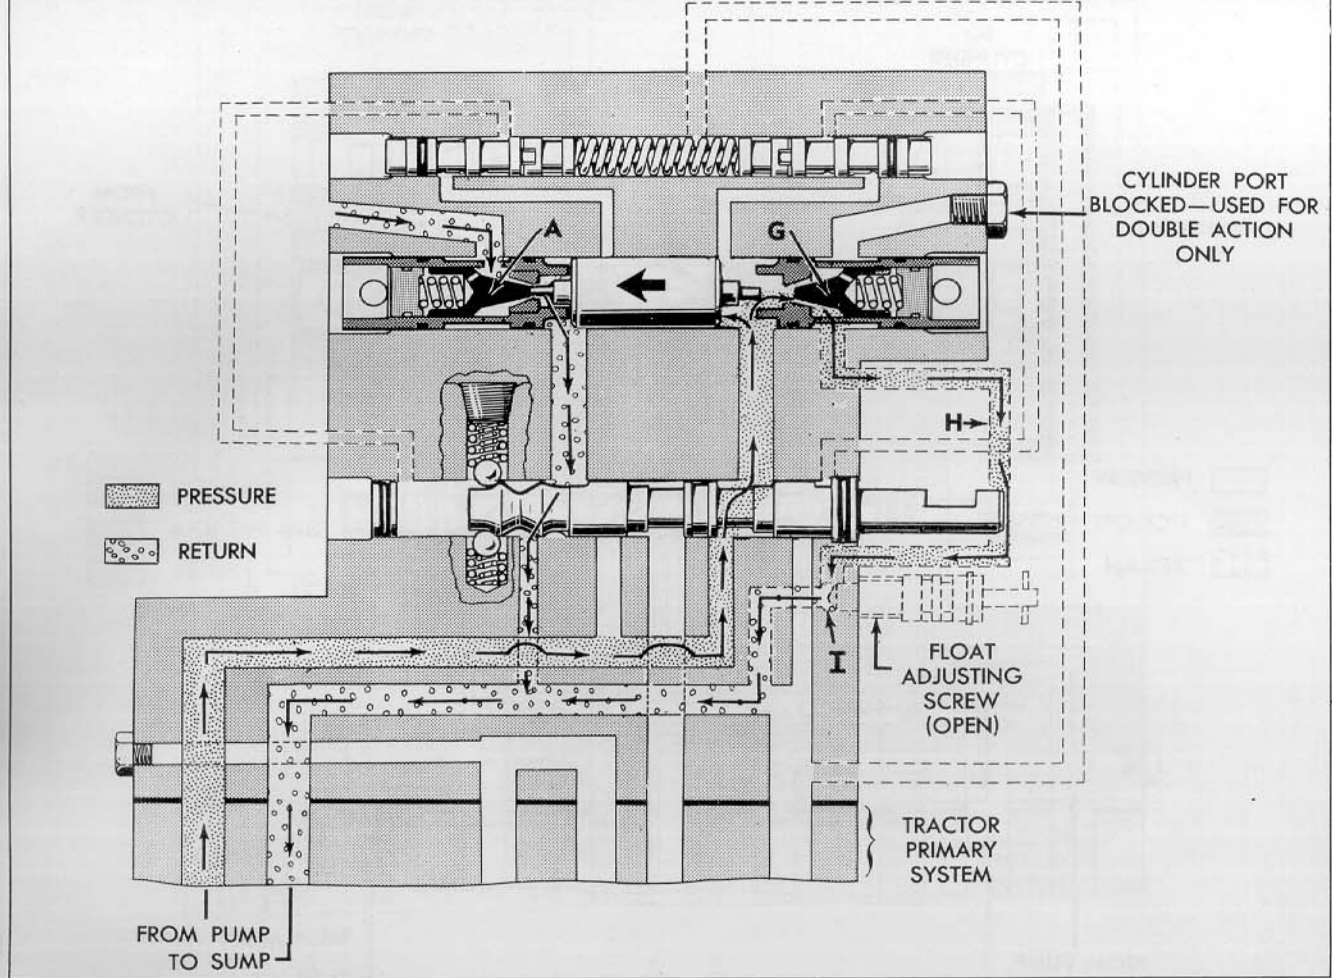

Figure 3
**Lower:** When the control spool is shifted to the "lower" or "drop" position, as shown in Figure 3, there are two simultaneous flow sequences within the remote valve as shown.
sequence and the control spool must be manually returned to the neutral position. This is due to the fact that the float adjusting screw (see Figure 3) is backed out of the passage "H" sufficiently to permit return oil flow to the tractor sump under reduced pressure. If the adjusting screw were turned "in" sufficiently, the kick-off cycle would function prematurely. Screw adjustment should be such that a smooth lowering action is obtained.